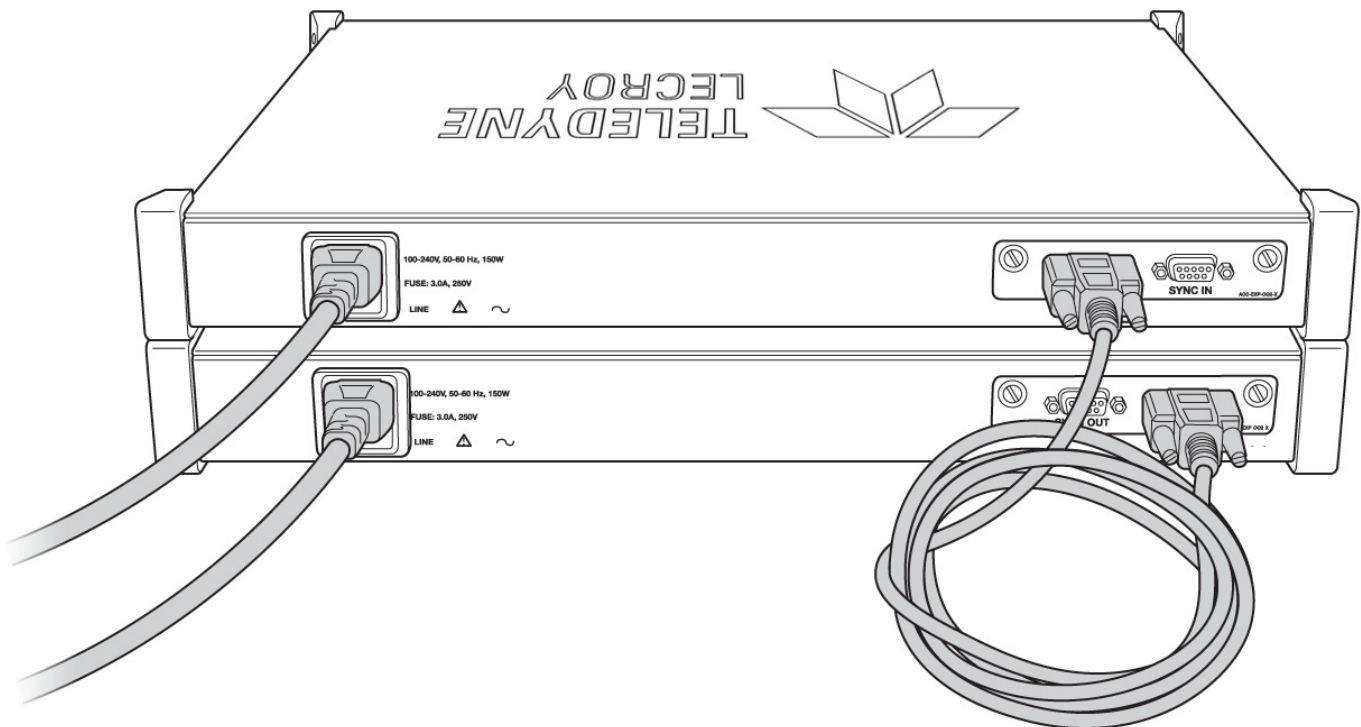

Figure 1.15: An Example of Connecting two SierraNet M408 Analyzers
3. Connect the male end of the sync cable to the SYNC IN port of the other SierraNet M408 (see Figure 1.15 on page 12.)